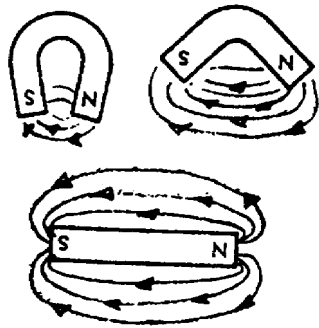

Figure 12. Bar magnets.
a. Magnetism, like electricity, is invisible. Its effects, however, are well known. An example is the attraction of a bar magnet for iron filings. A magnet has a North pole, designated as "N," and a South pole, designated as "S." The space around the magnet in which iron filings are attracted is called the "field of force" or magnetic field, and is described as lines which come out of the North pole and enter the South pole (fig 12).